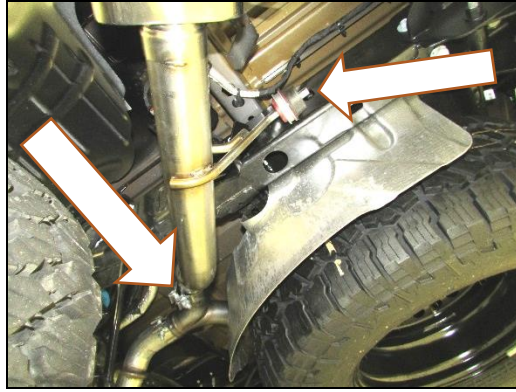

Figure 4
4. Install the left side Blackheart tailpipe to the Blackheart mid pipe. Now, install the (x2) bolts and tighten up the OE rubber isolator (**Figure 4**).